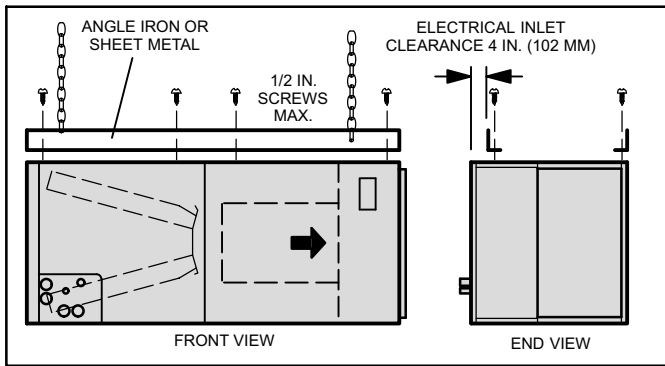

Figure 3. Suspending Horizontal Unit
3. If the unit is to be suspended, it must be supported along the entire length of the cabinet as illustrated in figure 3. If a strap is used, attach a piece of angle iron or sheet metal to the unit (either above or below) so that the full length of the cabinet is supported. Use securing screws which are no longer than 1/2 inch to avoid damaging the coil or filter. Connect the return and supply air plenums as required using sheet metal screws.
12. If the unit is to be suspended, it must be supported along the entire length of the cabinet as illustrated in figure 3 on page 5. If using a chain or strap, attach a piece of angle iron or sheet metal to the unit (either above or below the unit), so that the full length of the cabinet is supported. Use securing screws which are no longer than 1/2 inch to avoid damaging the coil or filter. Use sheet metal screws to connect the return and supply air plenums.